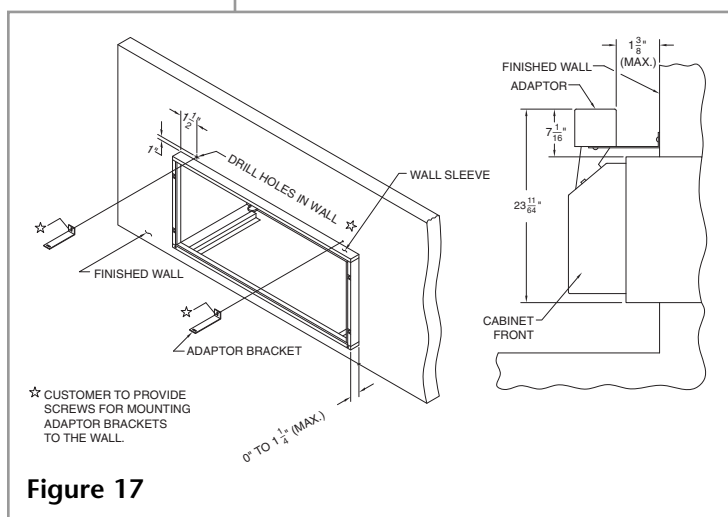

Figure 17
1. Mount adaptor brackets to the wall as illustrated. Installer to provide screws. (See **Figure 17**.)